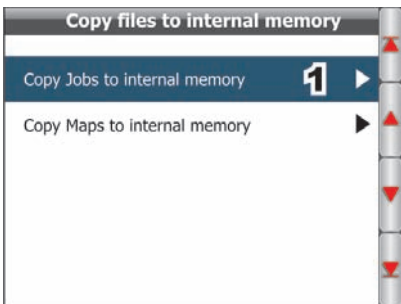

Fig. 160
- 1 Select the item **Copy Jobs to internal memory** (Fig. 160) and press **OK**;